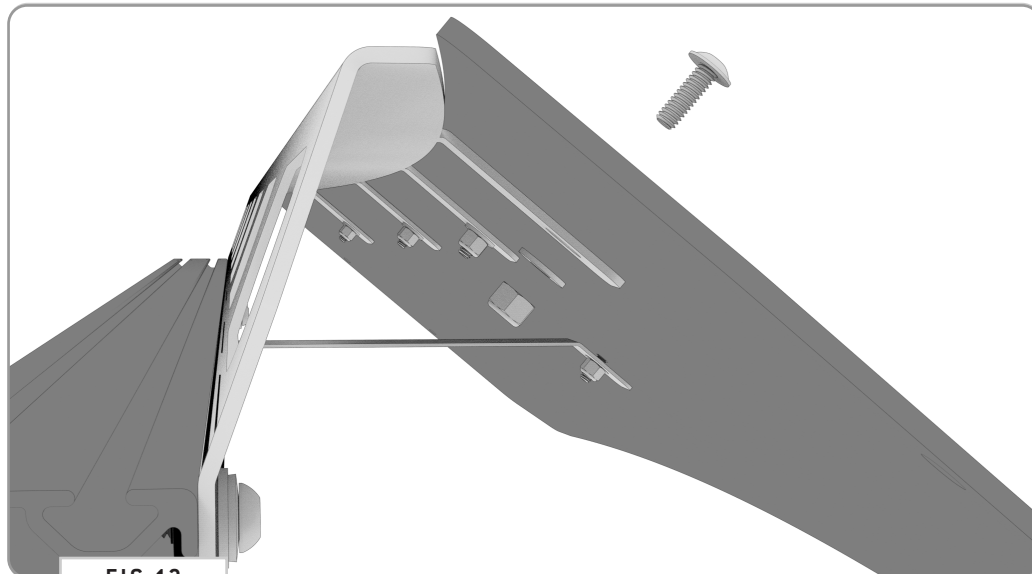

FIG 13
**4.5 Attach Front Fairing:** Attach the **Front Fairing** to the Assembly using **1/4-20 x 0.75 Flanged Button Head Screws**, **Flat Washers** and **Nylon Locknuts** (FIG 13).